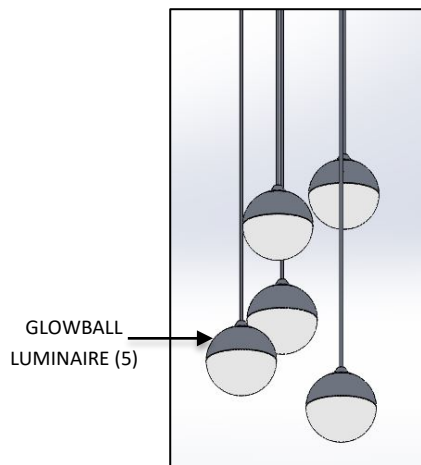

FIG. 2 GLOWBALL LUMINAIRE
1. GLOWBALL LUMINAIRE (5) with CORD attached. (Pre-assembled as shown in FIG. 2)